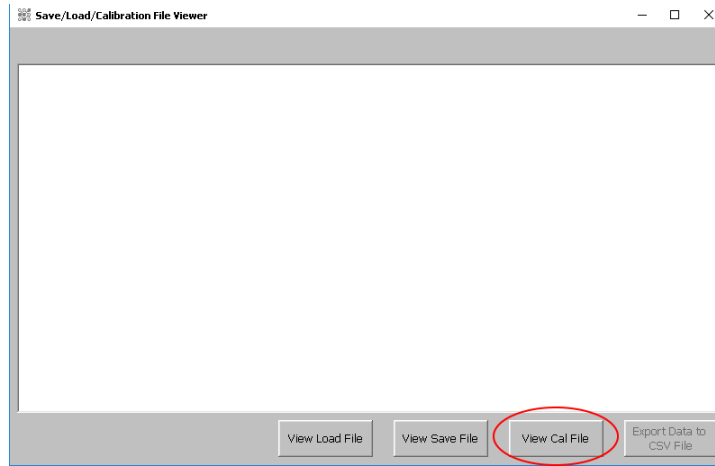

Figure 2.23. “View Cal File” button.
3. Click **View Cal File** button (Figure 2.23).